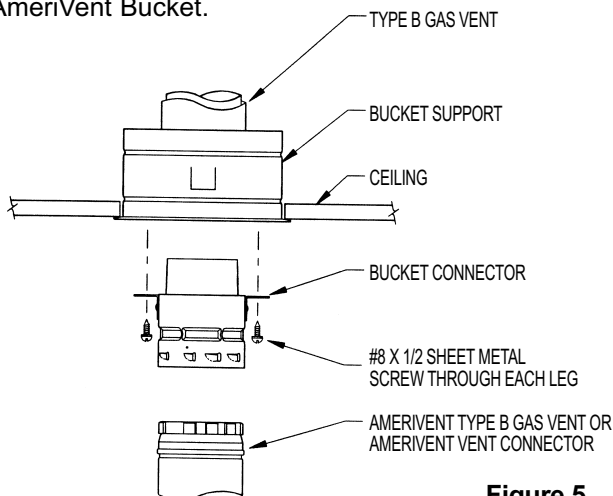

Figure 5
1. The Bucket Connector is installed by positioning it against the bottom of the AmeriVent Bucket, as shown in **Figure 5**, with the mounting tabs against the bottom of the bucket.